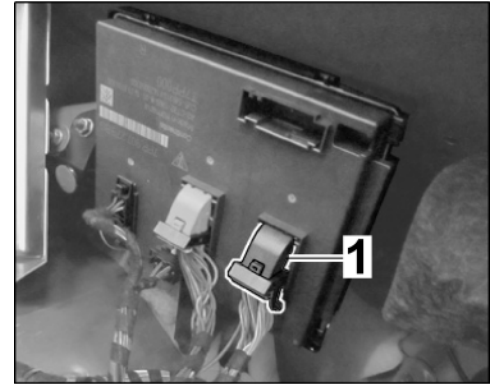

Figure 15
2.4.1 Disconnect electric plug connection on the rear-end electronics control unit (⇒ *Figure 15*, ⇒ *Workshop Manual '578919 Removing and installing control unit for rear-end electronics'*).